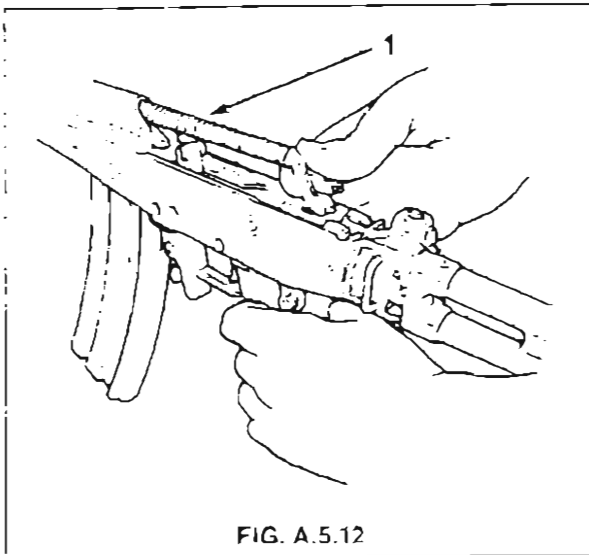

FIG. A.5.12
16. Hold return spring with the right hand, insert its front end into the opening of the sliding mechanism. Then push its rear end beyond the housing in the rifle's body. Make sure that the rear end of the spring is located in the rifle's body and not in the housing. See Fig. A.5.12.